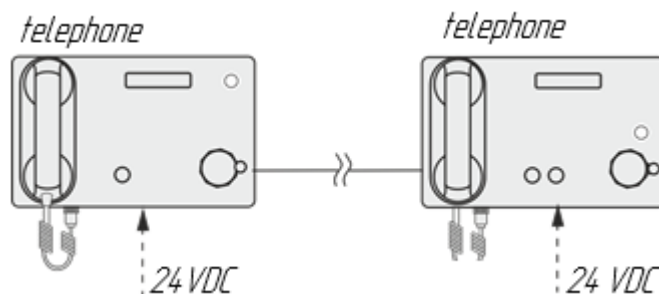

Figure 2 – Example of user network pair communication
a) pair communication – to organize direct communication, see Figure 2;